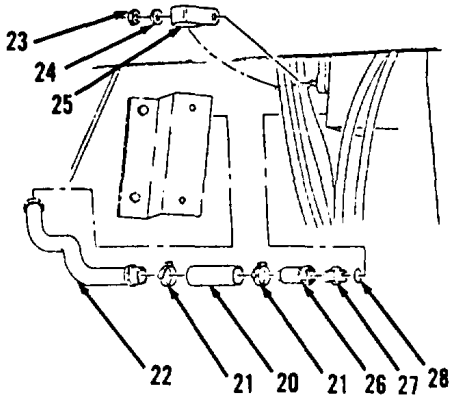
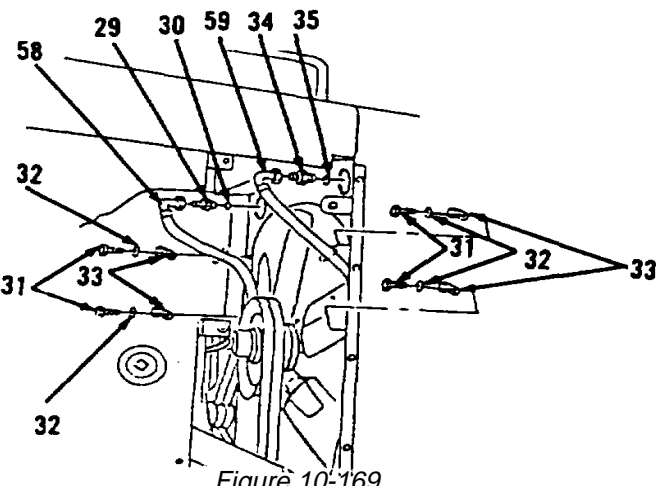

Figure 10-168.
Figure 10-169.
- 19. Install new preformed packing (35) and connector (34, Figure 10-169).
- 20. Connect hose assembly (59).
- 21. Install four clips (33), washers (32) and bolts (31).
- 22. Install new preformed packing (30) and connector (29).
- 23. Connect hose assembly (58).
- 24. Install new preformed packing (28), connector (27) and tube assembly (26, Figure 10-168).
- 25. Install clip (25), washer (24) and nut (23).
- 26. Install hose assembly (22), two clamps (21) and hose (20).